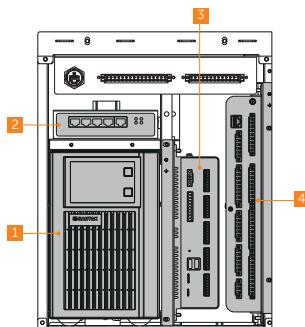

Figure 2-7 Parts description (control area)
- The mark "*" indicates that parts in the front view (Figure 2-7) cannot be fully seen.